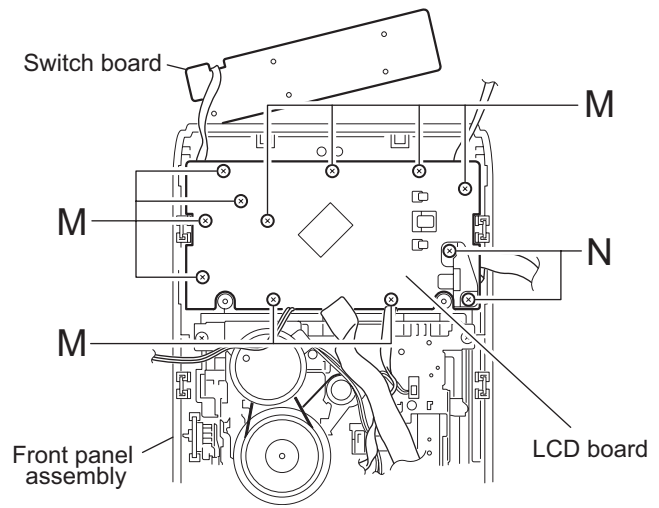

Fig.15
3.1.6 Removing the LCD board (See Fig.15)